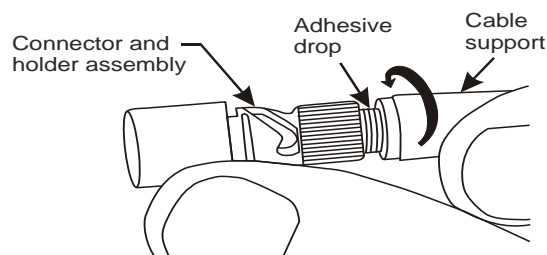

Figure 30. Install Cable Support
8. **Install Cable Support**—Apply a drop of adhesive onto the threads of the cable support, slip the support over the crimped sleeve, and screw the support into the connector body (Figure 30).